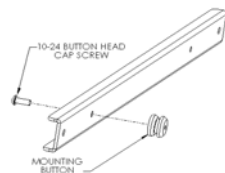
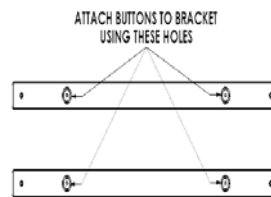

Figure 2
Figure 3
2. Using a 10-24 button head cap screw inserted from back side of bracket, secure mounting button, with chamfered hole of mounting button (larger surface) facing bracket, to top and bottom brackets (four places) (see Figure 2 and Figure 3).